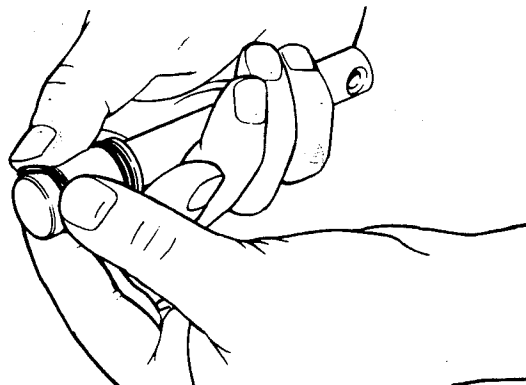

Figure 23. Removing "O" Ring
- E. Remove the auger assemblies from the freezer (Fig. 23). Pull the augers out of the freezer barrel slowly. As the augers are being pulled out, carefully remove each of the plastic flights with springs.
- I. Remove all "O" Rings from parts by first wiping off the lubricant using a clean paper towel. Then squeeze the "O" Ring upward with a dry cloth (Fig. 23). When a loop is formed, roll out of the "O" Ring groove.